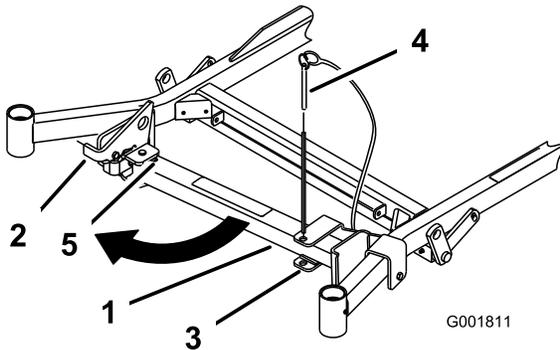
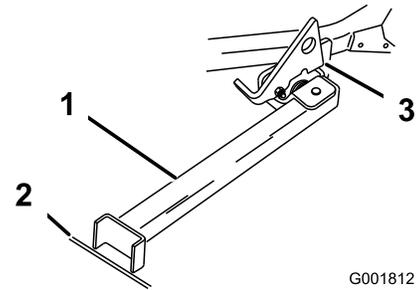

Figure 27
Figure 28
2. Remove the bracket pin (Figure 27).
3. Raise the latch. Swing the stand foot out front and slide stand toward machine, into the bottom of slot (Figure 27 and Figure 28).
4. Set the foot of stand on the ground and rest the latch on the pivot tab (Figure 28).
- Note:** For best results, place the foot of stand into seams in sidewalks or into the turf (Figure 28).
6. Drive onto the stand. Stop when the latch drops over the tab into the locked position (Figure 28). Once onto the stand, engage the parking brake and turn off the engine.
5. Return the stand to its rest position (Figure 27).